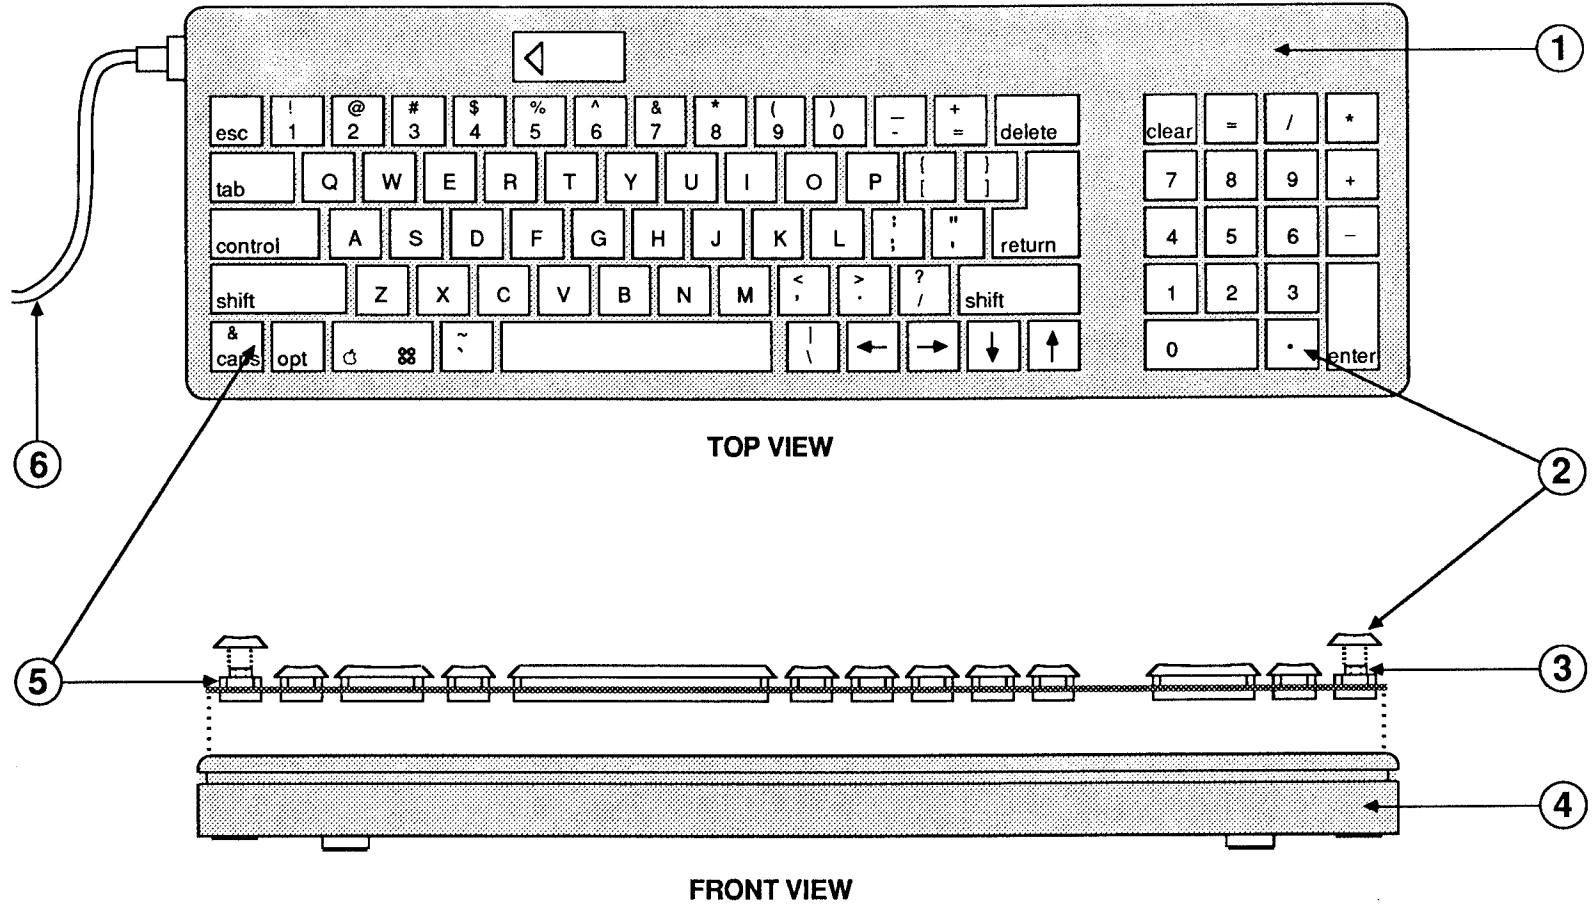

FIGURE 9
- IPL.17 Keyboard (Figure 9)
□ MACINTOSH SE – KEYBOARD (Figure 9)